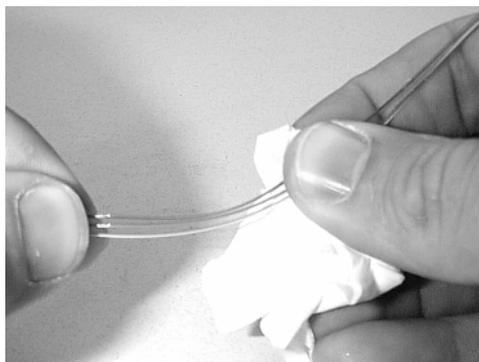

Figure 38 - Clean the fibers.
7.15 Clean the exposed fibers with a lint free wipe and isopropyl alcohol. The cable is now ready for testing and/or splicing (Figure 38).